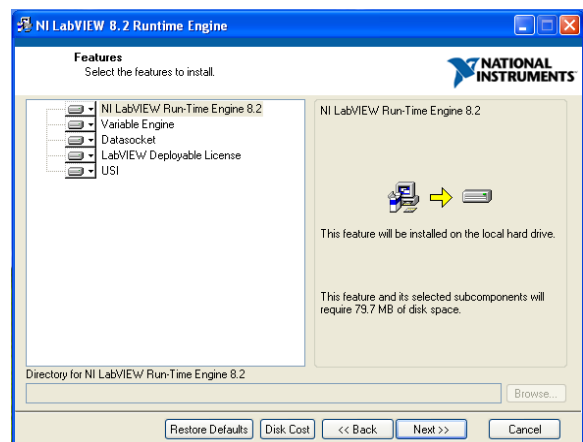

Figure 14. Features Selection
5. When the screen in Figure 14 appears, click **Next >>** to continue.